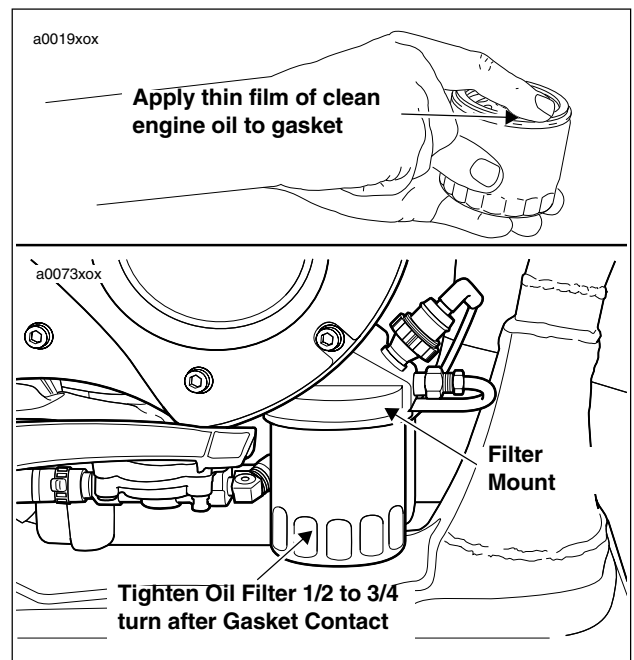

Figure 1-4. Installing New Oil Filter
- See Figure 1-4. Remove the oil filter (located at the front of the engine).
- See Figure 1-4. Apply a thin film of clean oil to gasket on new oil filter.